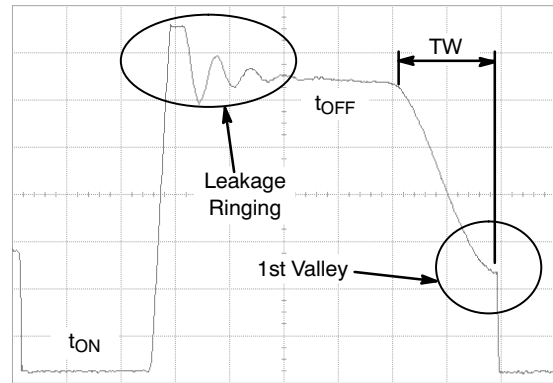
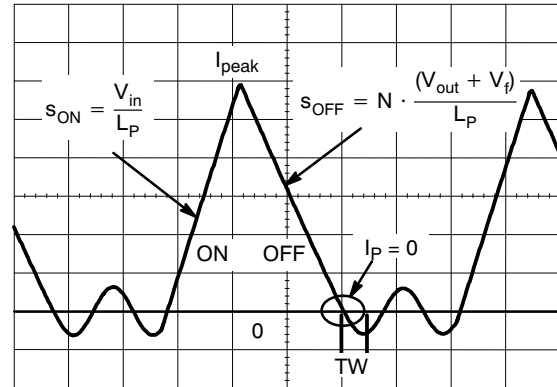
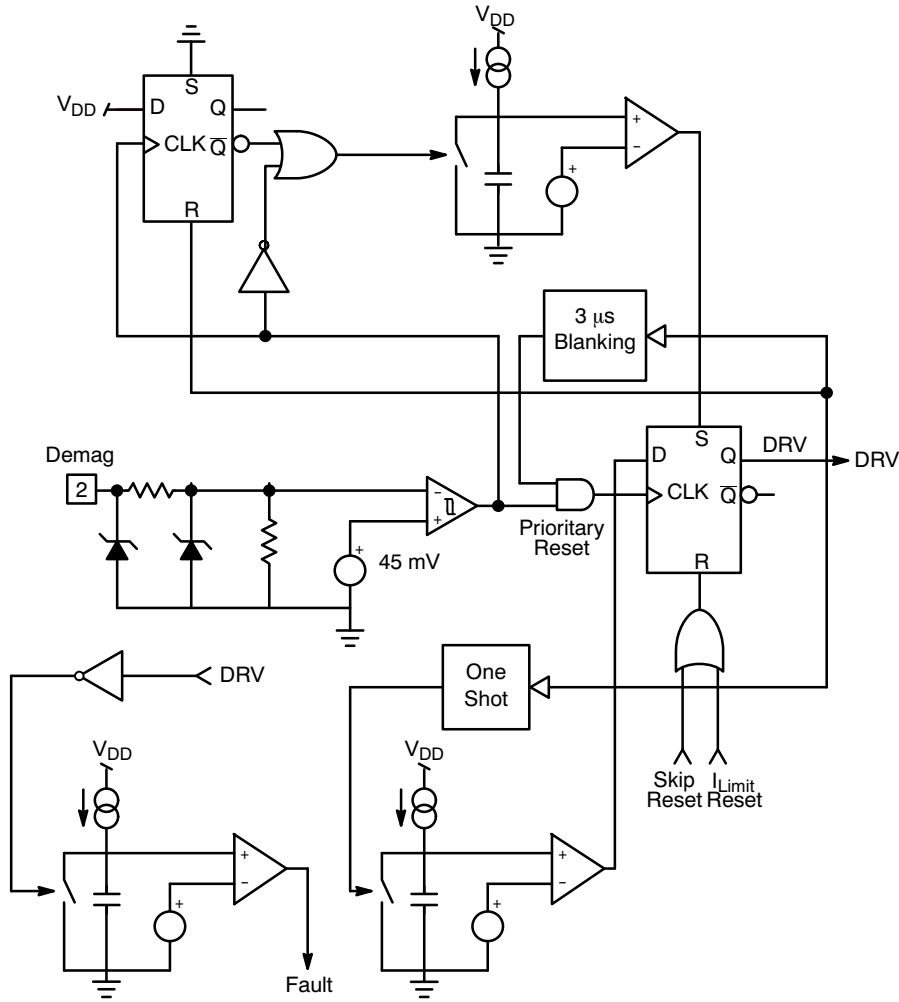
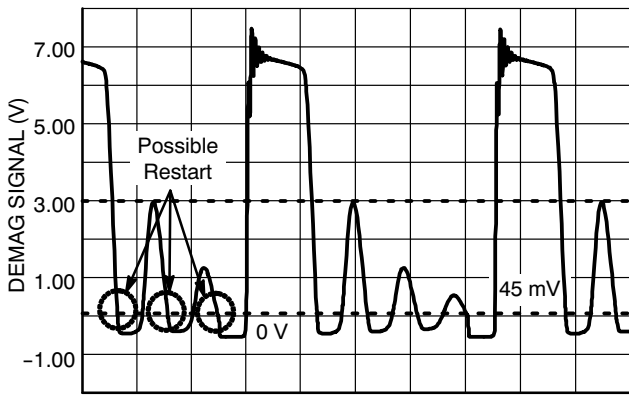

Figure 7. Typical Quasi-Resonance Waveform
Figure 8. Magnetizing Inductance Current Waveforms
Figure 9. Internal QR Architecture
Figure 10. Core Reset Detection is Done Through the Monitoring of a Dedicated Auxiliary Winding
Quasi-Resonance (QR) implies that the controller permanently monitors the transformer core flux activity and ensures Borderline Conduction Mode (BCM) operation. That is to say, when the switch closes, the current ramps up in the magnetizing inductance  $L_P$  until it reaches a setpoint imposed by the feedback loop. At this point, the power switch opens and the energy transfers from the primary side to the secondary (isolated) portion. The secondary diode is now biased and the output voltage “flies back” to the primary side, now demagnetizing the primary inductance  $L_P$ . When this current reaches zero, the transformer core is said to be “reset” ( $\varphi = 0$ ). At this time, we can turn the MOSFET on again to create a new cycle. Figure 7 and 8 portray the typical waveforms with their associated captions. If a delay  $TW$  is introduced further to the core reset detection and before biasing the power MOSFET, the drain signal  $V_{ds}(t)$  has the time to go through a minimum, also called valley. Therefore, when we will finally reactivate the power MOSFET, its drain-to-source voltage will be minimum, reducing capacitive losses but also its gate-charge value, since the Miller effect gets diminished at low  $V_{ds}$ .
The flux activity monitoring is actually made via an auxiliary winding, obeying the law,  $V_{aux} = N \cdot d\varphi / dt$ . Figure 9 describes how the detection is made, since the signal obtained on the auxiliary winding is centered to zero. Let’s split the events with their associated circuitry:
The D flip-flop output is high, the MOSFET is enhanced and current grows-up in the primary winding. This is the *on* portion of Figure 8, left side of the triangle. When the driver output went high, its rising edge triggered a 8  $\mu s$  timer. This 8  $\mu s$  timer provides a true frequency clamp by driving the D-input of the flip-flop. Now, when the peak current reaches the level imposed by the feedback loop, a reset occurs and the flip-flop output comes low.
As one can see from Figure 7, a parasitic ringing takes place at the switch opening: this is the leakage inductance contribution. Unfortunately, this leakage can be detected as a core reset event if no precaution is taken. This explains the presence of the 3  $\mu$ s blanking timer that prevents any restart before the completion of this circuit. After leakage, the voltage applied over the primary winding is an image of the output voltage: this is the flyback level, or plateau level, equal to  $N(V_{out} + V_f)$ , with N the turn ratio between the primary and the secondary,  $V_{out}$  the output voltage and  $V_f$ , the secondary diode forward drop. We are on the right portion of Figure 8, OFF portion, the secondary current ramping down. If we now observe the voltage on the auxiliary winding, we will see something like what Figure 10 shows where the plateau lasts until the core is reset. At this reset event, a natural ringing takes place whose amplitude depends on the ratio N and  $V_{out}$ . A comparator observes this activity and detects when the voltage drops below ground, actually below 45 mV typically. In Figure 9, one can see the ESD protection arrangement which introduces a small capacitive component to Pin 3 input. This capacitive component associated with the demagnetization resistor can thus realize the necessary above TW delay.
Therefore, we can see that for various switching frequency values (dependent on the input condition if the output demand is fixed), the converter will permanently adjust the peak current  $I_P$  to keep the output power constant. By manipulating the slope definitions  $S_{ON}$  and  $S_{OFF}$  (see Figure 8), we can show that the peak current is defined by: